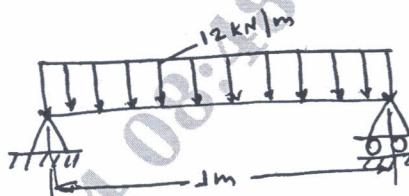

Fig Q5(b)
b. Fig Q5(b) shows a simply supported beam subjected to U.D.L to obtain max, deflection. Take $E = 200\text{GPa}$, $I = 2 \times 10^6 \text{mm}^4$.